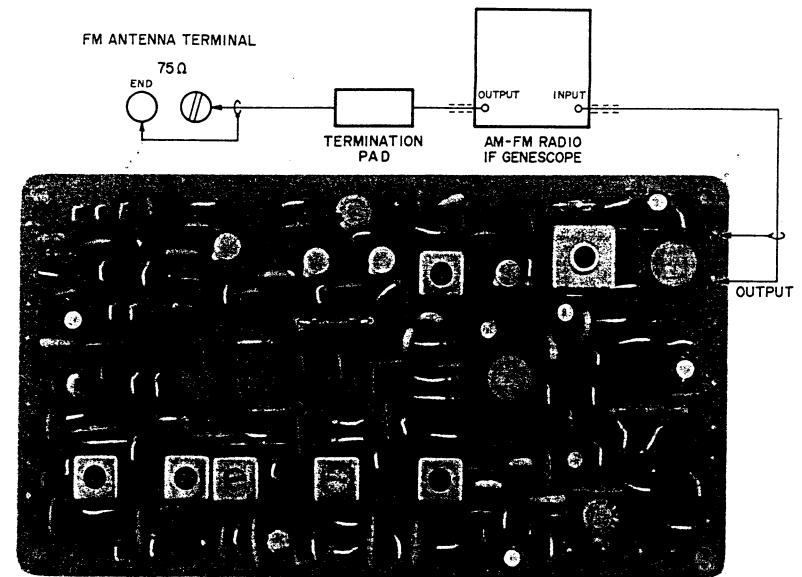

Fig. 7 INSTRUMENT CONNECTIONS
- 1) Connect the GENESCOPE lead wires to the 75Ω FM ANTENNA TERMINALS of the Receiver as well as to the FM IF P.C. Board output as shown in Fig. 7.